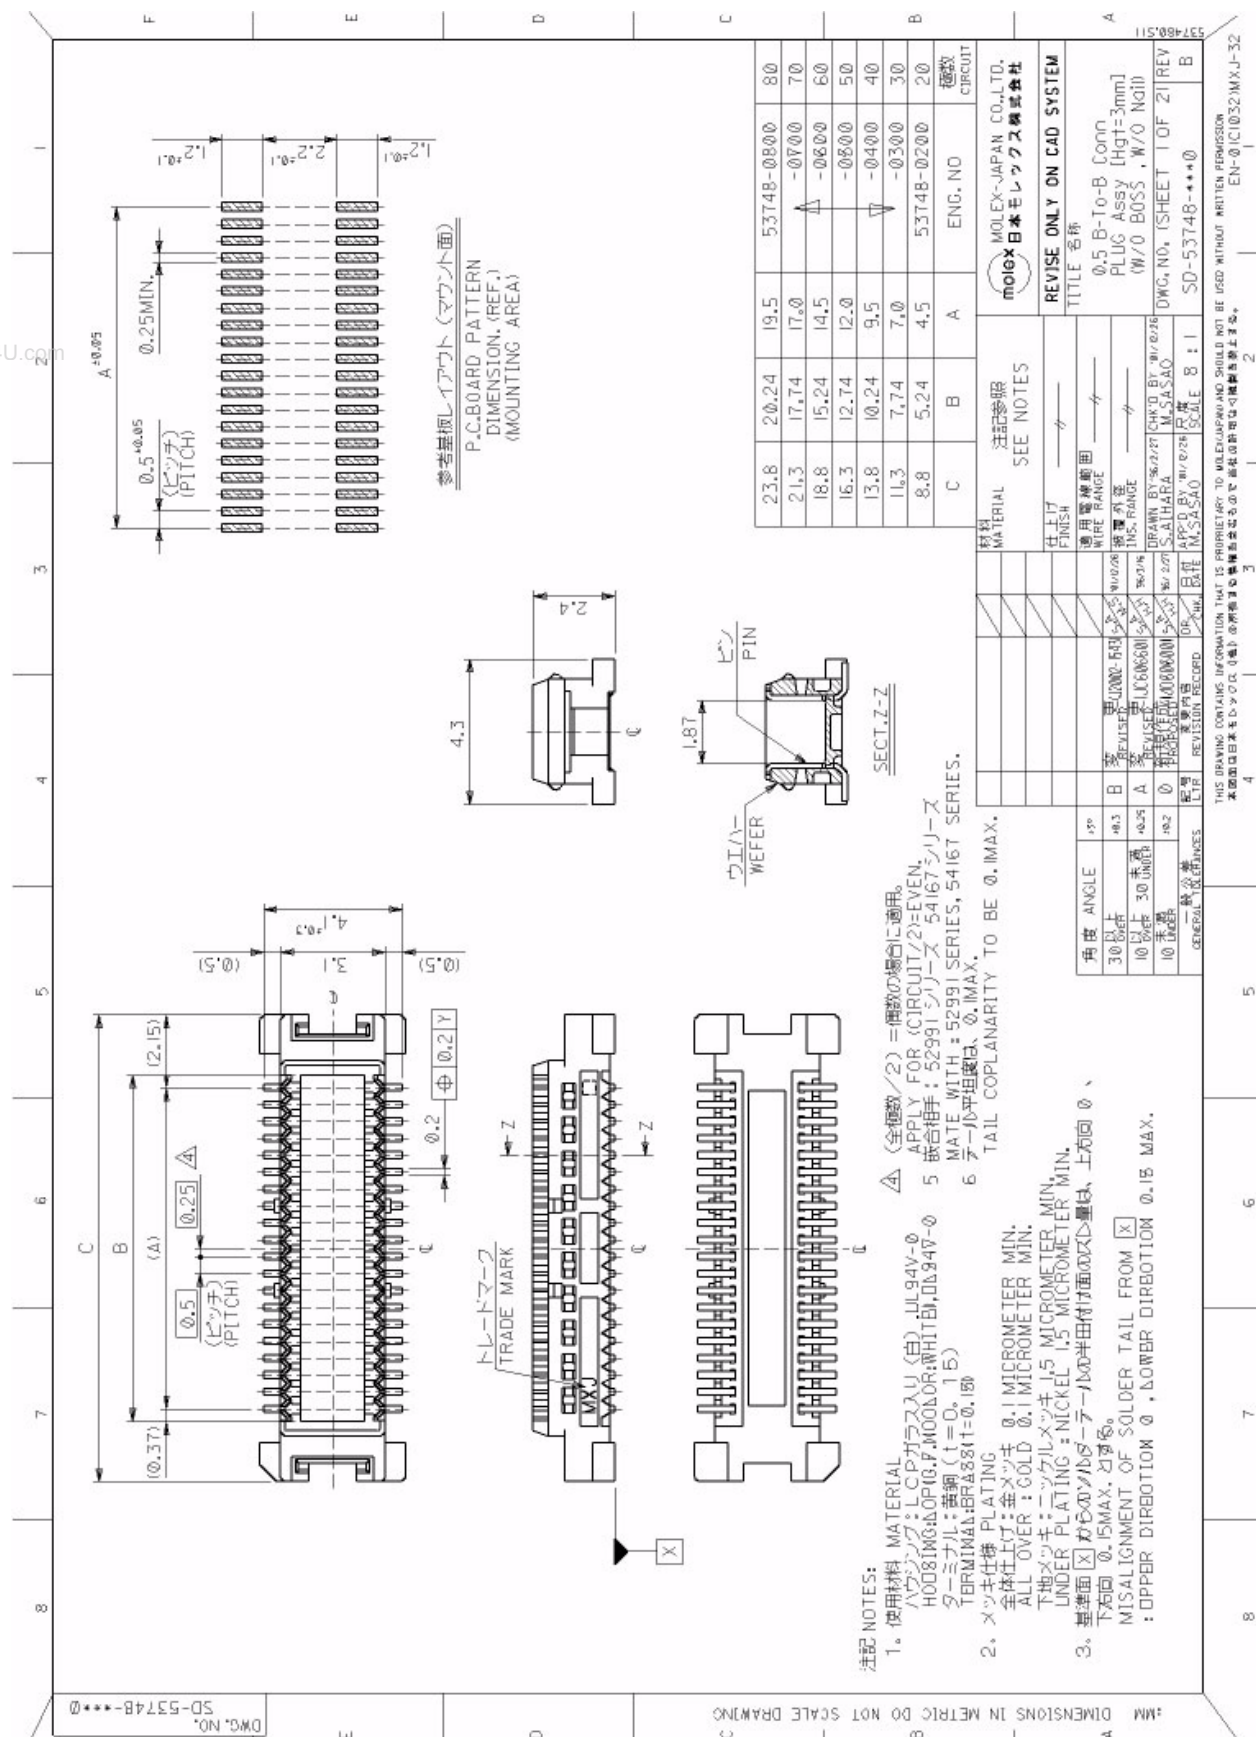

Figure 53: Mating board-to-board connector 53748-0808 on application
- 53748-0808 SlimStack Plug, 3mm stacking height, see Figure 53 for details.